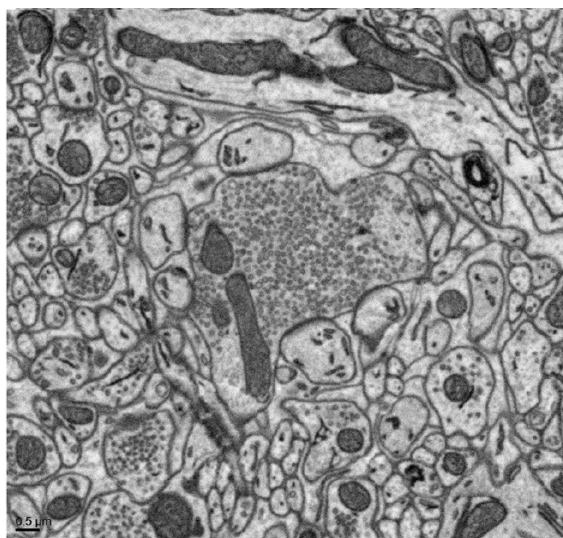

Figure 3. A high magnification image from the region indicated in Figure 2. Note synaptic vesicles, microtubules, and mitochondria cristae.
Figure 2. (A) 25 x 25 x 25 µm volumetric data set containing 500 serial images of a mouse brain obtained using the 3View system installed on an FEI Quanta 200 FEG SEM. (B) A low magnification overview from the volumetric data set in Figure 3. The original data set was 4k x 4k pixels, 500 serial images, and had a pixel size of 5.6 nm.